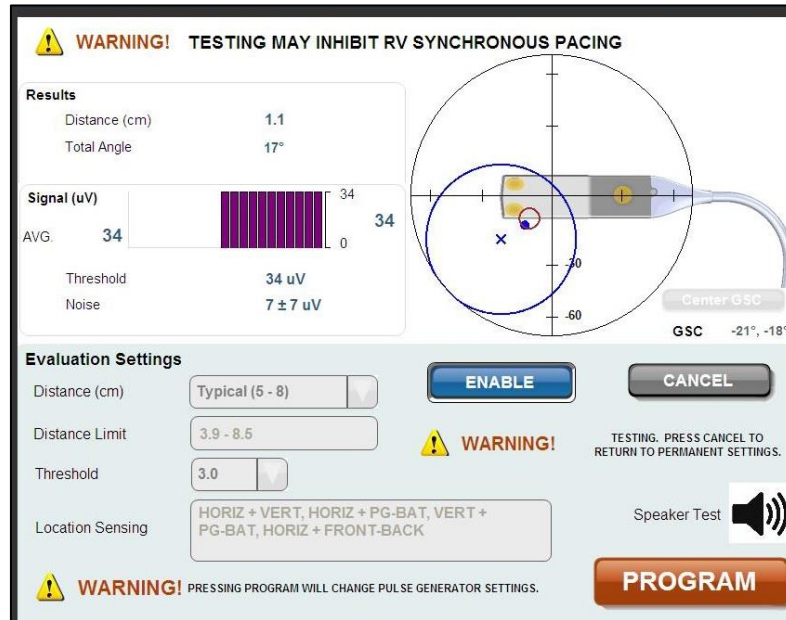

Figure 17: Transmitter Model 4100 Setup Acoustic Window Screen
The set-up of the acoustic window evaluates the position of the Transmitter array relative to the Electrode position. The array elements that are currently being tested are not adjustable. The entire array area of 0.8 cm by 2.4 cm is active during the testing. The on-screen display shows the location and sensing signal values as measured in real time as the Transmitter locates the Electrode (Figure 17). This is useful for monitoring the effect of the current selections being tested. The following characteristics are visible in the graphic display:
An audible notification exists in the Transmitter Model 4100 to indicate the progression of the depletion of the implanted battery. The audible notification may be tested from the Setup Acoustic Window screen (Figure 17) to determine whether the notification can be perceived by the patient:
When the battery voltage for the implanted battery reaches 2.6V, the implanted Pulse Generator will generate a patient notification consisting of twenty (20) half-second audible tones separated by one second of silence between tones. This patient alert notification repeats every eight (8) hours, until either the battery is replaced or the system is programmed with settings that extend battery longevity (e.g. lower transmit levels and wider pulse widths could be used to increase battery life). The audible notification may be tested from the Setup Acoustic Window screen (Figure 17) to determine whether the audible notification can be perceived by the patient (see section 2.6.4)